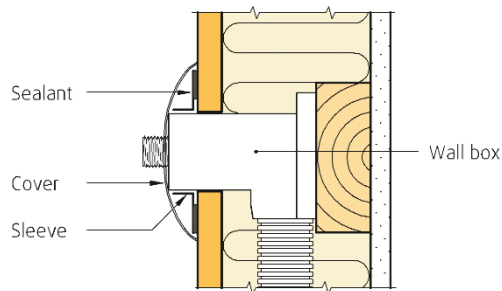

Figure 3: Installation of wall box with sleeve
- The sleeve delivered with the wall box is to be attached to the bathroom panel using one of the sealants listed in table 3. See Figure 3.